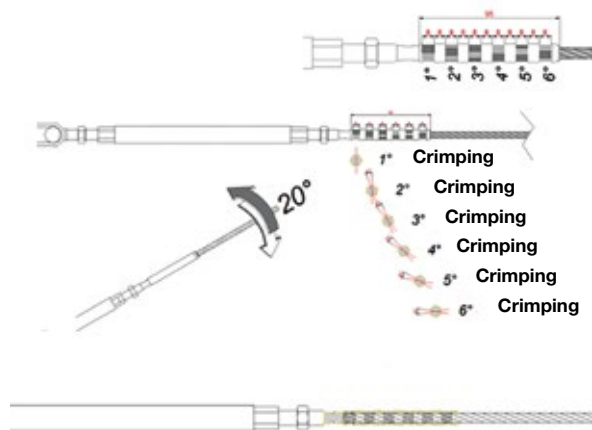

Figure 5.1 - Crimping
- c) Perform the other crimping operations at a distance of approximately 8 mm from the previous one, turning the crimping tool by about 20° each time (see **Figure 5.1**). This operation is compulsory for aesthetic reasons, to avoid a pipe that is not straight and not in axis.